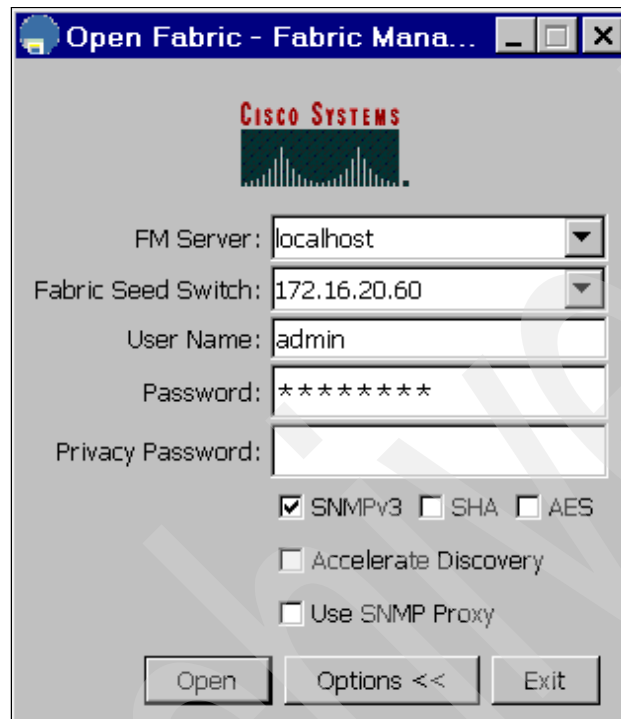

Figure 14 Logging in to FM server
1. We log on to FM using the FM server located at IP address 172.16.20.60 (Figure 14).